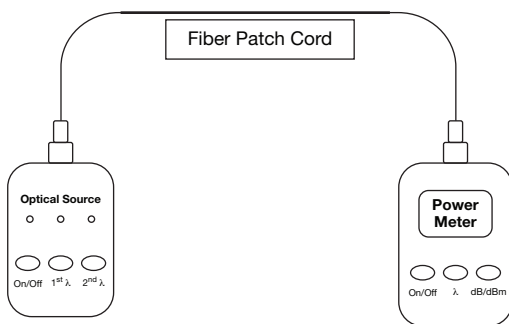

Figure 3
3. Connect a laser (SM) or LED (MM) source to one end of the fiber and a power meter to the other end of the fiber. Refer to Figure 3.